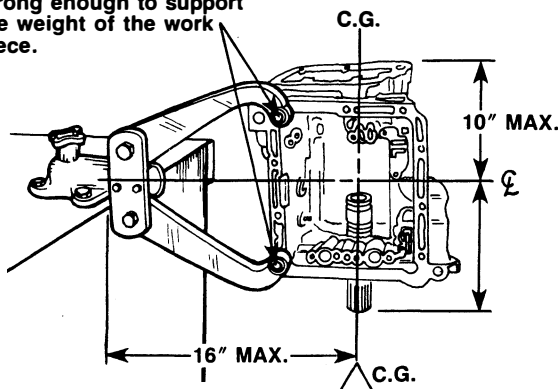

FIGURE 2
1. Attach the component to the holding fixture. See Figure 2.